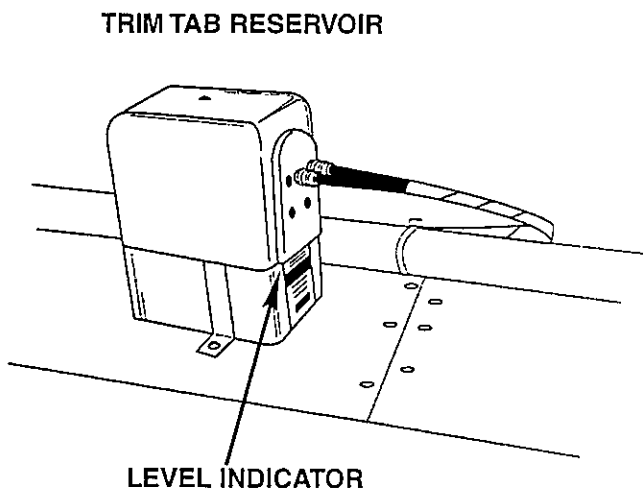

Figure 3-11 Trim Tab Reservoir
12. See Figure 3-11. Check that the fluid level in the trim tab reservoir is between "FULL" and "ADD" marks. The reservoir is located outboard of the port engine.